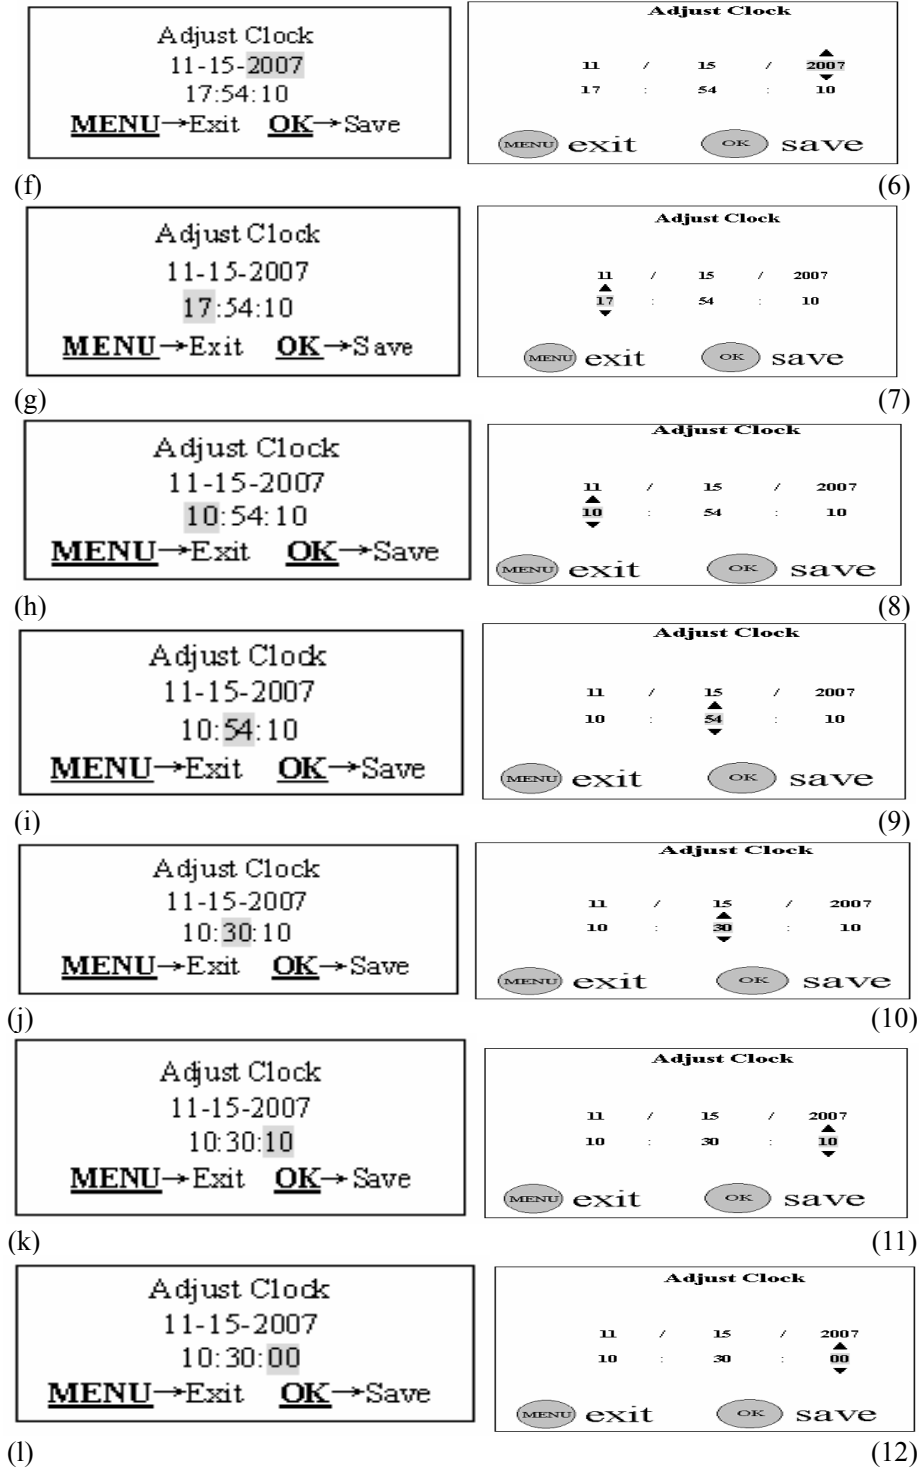

Figure 9: Setting date and time
- 1 Press the UP or DOWN key until Set Clock appears, as shown in Fig. 9(a) and 9(1).
- 2 Press the OK key to start setting the month. The current date and time will be displayed and the month will be highlighted, as shown in Fig. 9(b) and 9(2).
- 3 Press the UP or DOWN key to change the month to the desired value. And then press the RIGHT key to set the day. The day will be highlighted, as shown in Fig. 9(c) and 9(3).
- 4 Press the UP or DOWN key until the desired day, as shown in Fig. 9(d) and 9(4).
- 5 Press the RIGHT key to set the year. The year will be highlighted, as shown in Fig. 9(e) and 9(5).
- 6 Press the UP or DOWN key to set the year to the desired year, as shown in Fig. 9(f) and 9(6).
- 7 Press the RIGHT key to set the hour. The hour will be highlighted, as shown in Fig. 9(g) and 9(7).
- 8 Press the UP or DOWN key to the desired hour, as shown in Fig. 9(h) and 9(8).
- 9 Press the RIGHT key to set the minute. The minute will be highlighted, as shown in Fig. 9(i) and 9(9).
- 10 Press the UP or DOWN key to the desired minute, as shown in Fig. 9(j) and 9(10).
- 11 Press the RIGHT key to set the second. The second will be highlighted, as shown in Fig. 9(k) and 9(11).
- 12 Press the UP or DOWN key to the desired second, as shown in Fig. 9(l) and 9(12).